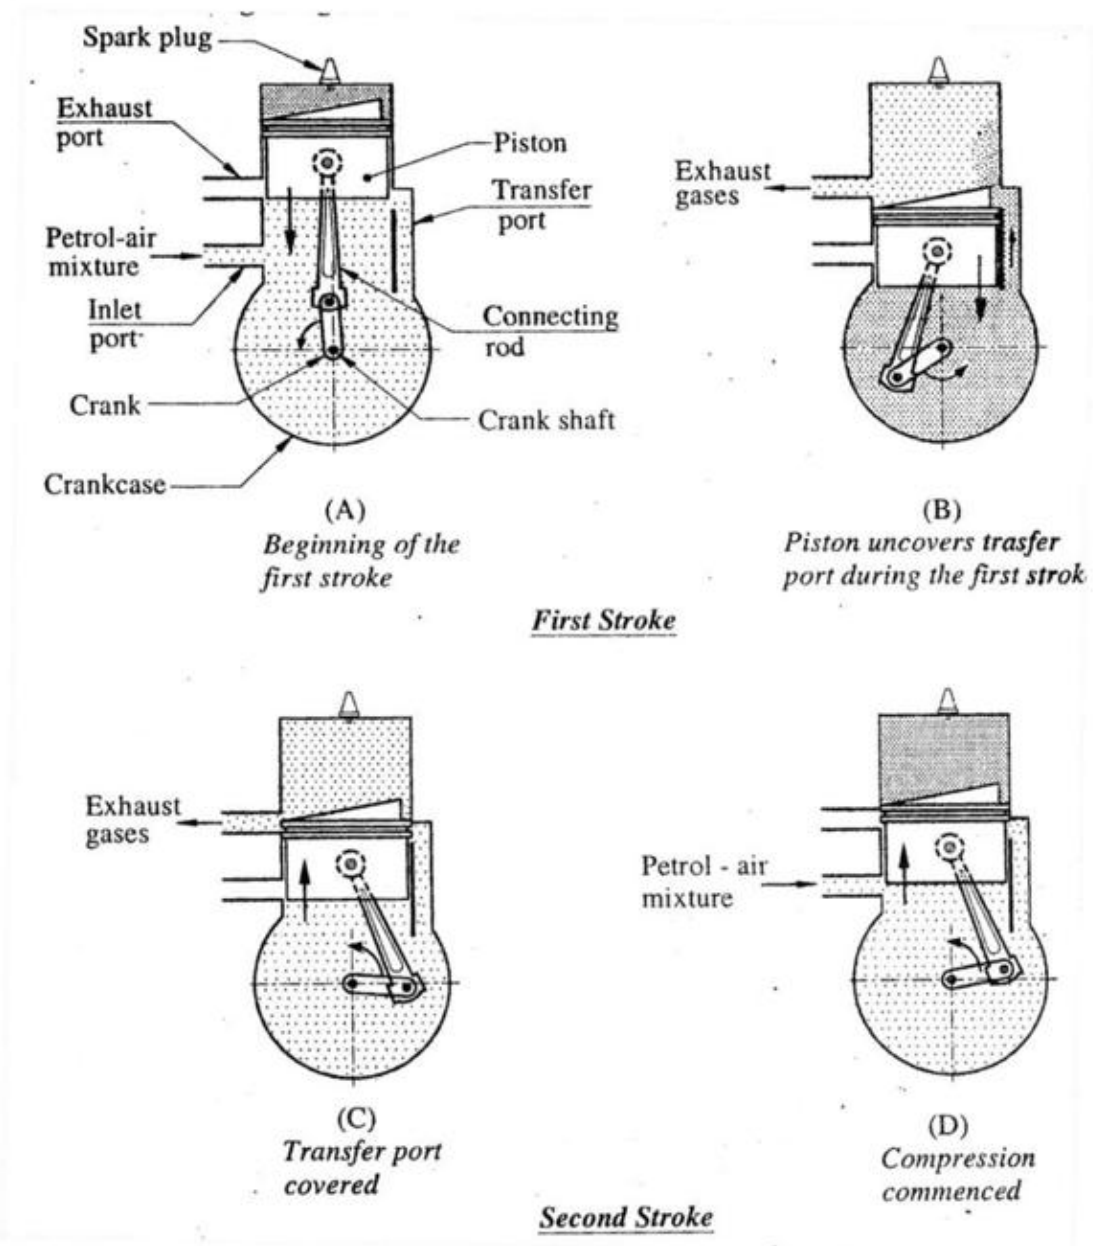
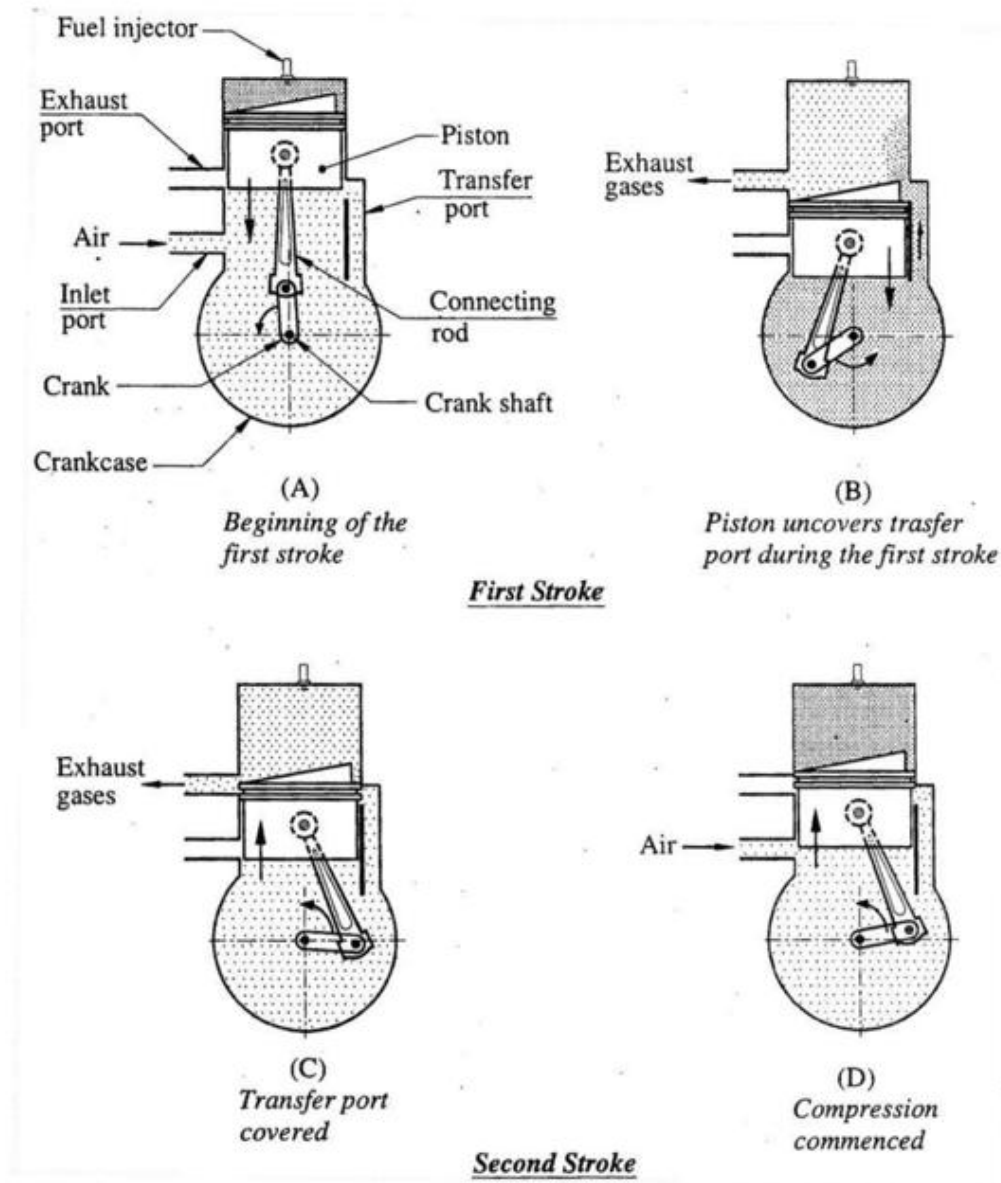

Fig. 7.9 Two stroke petrol engine
Fig. 7.10 Two stroke diesel engine
When the piston moves upward, as shown in fig. 7.9. Partial vacuum is created in the crankcase until its lower edge uncovers the inlet port completely as shown in fig. 7.9(A).
The pressure difference set up between the atmosphere and crankcase will suck the petrol and air mixture through the carburetor fitted (not shown in fig. 7.9) to inlet port, into the crankcase as shown in fig. 7.9. The suction will be continued till the inlet port is covered by the piston during its next downward stroke.
After the inlet port is covered by the piston as shown in fig. 7.9 its further downward motion will compress the charge in the crankcase up to top edge of the piston uncovers the transfer port as shown in Fig. The compressed charge flows from the crankcase to cylinder through transfer port. This will continue till the piston covers the transfer port during its next upward stroke as shown in fig. 7.9.
At the beginning of the first stroke the piston is at TDC as shown in fig. 7.9. Piston moves from TDC to BDC. The electric spark ignites the compressed charge. The combustion of the charge will release the hot gases which will increase the pressure and temperature in the cylinder. The high pressure combustion gases force the piston downwards. The piston performs the power stroke till it uncovers the exhaust port as shown in fig. 7.10.
The combustion gases which are at a pressure slightly higher than the atmospheric pressure escape through the exhaust port. The piston uncovers the transfer port as shown in fig. 7.9. The fresh charge flows from the crankcase into the cylinder through transfer port.
The fresh charge which enters the cylinder pushes the burnt gases, so more amount of exhaust gases come out through exhaust port as shown in fig. 7.9. This sweeping out of exhaust gases by the incoming fresh charge is called **scavenging**. This will continue till the piston covers both the transfer and exhaust ports during next upward stroke.
In this stroke the piston moves from TDC to BDC. When it covers the transfer port as shown in Fig. the supply of charge stops and then when it moves further up it covers the exhaust port completely as shown in Fig. 7.9(D) stops the scavenging. Further upward motion of the piston will compress the charge in the cylinder. After the piston reaches TDC the first stroke repeats again.
At the beginning of the first stroke, the piston is at TDC as shown in Fig. 7.10 Piston moves from TDC to BDC.
The top edge of the piston uncovers the transfer port as shown in Fig. 7.10 the air flows from the crank case into the cylinder through transfer port. The fresh air entering the cylinder, it pushes the burnt gases, so burnt gases come out from exhaust port as shown in Fig. 7.10. This pushing out of the exhaust gases is called **scavenging**. This will continue till the piston covers both the exhaust and the transfer ports during next upward stroke.
In this stroke the piston moves from BDC to TDC. When it covers the transfer port as shown in Fig. 7.10 the supply of air is stop and then when it moves further up it covers the exhaust port completely as shown in Fig. stops the scavenging. Further upward motion of the piston will compress the air in the cylinder. After the piston reaches TDC the first stroke repeats again.